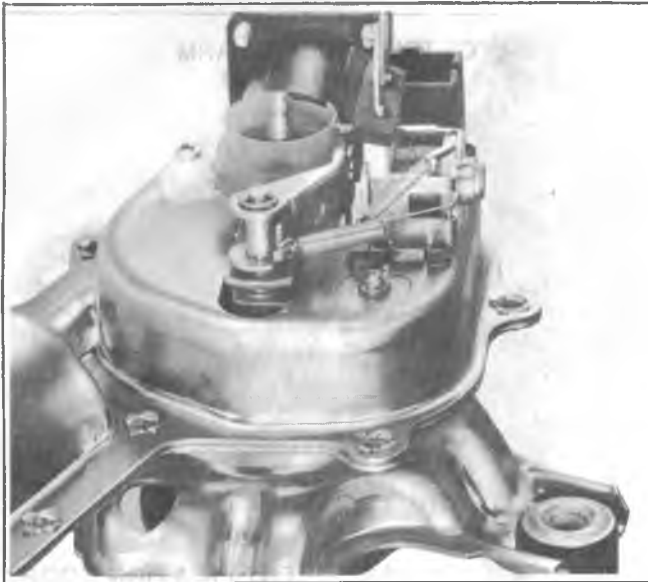

Fig. 8-31-Relay Coil Assembly
1. Bend retainer tabs as required to provide clearance for removing end cap assembly. Figure 8-31.